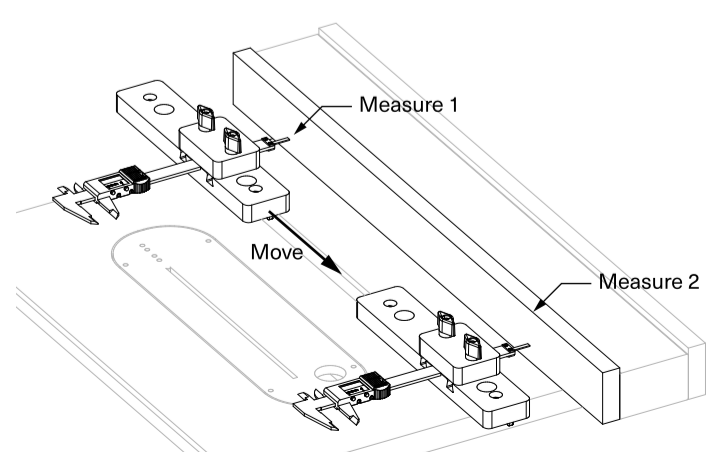

Fig 6b - Measure rip fence face
- 6.2 Slide the jig as far forward as possible and measure the distance to the rip fence. Make sure the Miter Bar is fully engaged inside the miter slot. Zero the display on the caliper [Fig 6b].
- 6.3 Slide the jig as far backward as possible and measure the distance to the rip fence. Both measurements should be the same [Fig 6b].